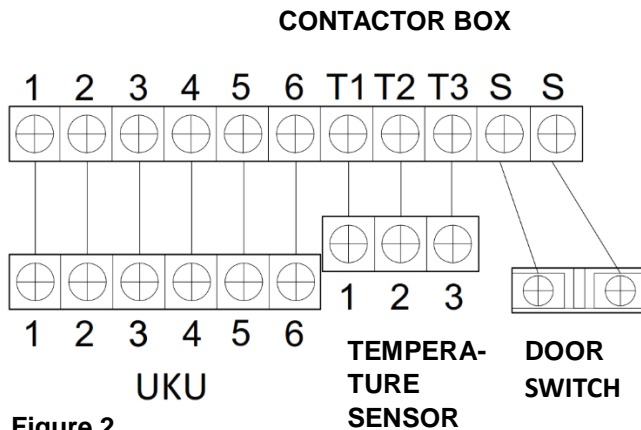

Figure 2
3. If you are using remote control, insert the SIM card that has PIN code request disabled. To disable the PIN code request consult your SIM card vendor. Write down the ID and password from the printed circuit of UKU. Connect the cable to the device (Figure 2).
8. Connect the cable to the temperature sensor's plug according to Figure 2.